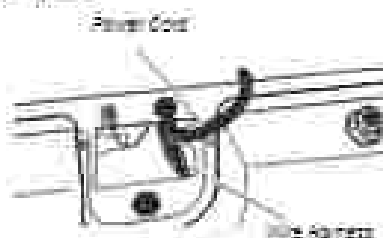
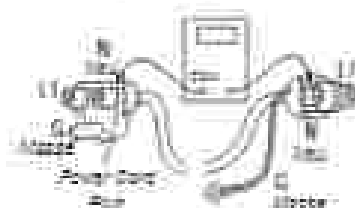

Figure 4 - Power cord-to-wire harness connection for gas dryer.
Figure 5 - Power cord terminals, gas dryer
3. Check that the power cord is firmly connected to the dryer's wire harness. See figure 4.
5. With an ohmmeter, check for continuity between the neutral (N) terminal of the plug and J7-4 (white wire) on the ACU. The left-hand side of figure 5 shows the location of the neutral terminal (N) on the power cord plug. Also see figure 1, page 13.
- If there is no continuity, disconnect the white wire of the main harness from the power cord at the location illustrated in figure 4. Test the continuity of the power cord's neutral wire as illustrated in figure 5. If an open circuit is found, replace the power cord. Otherwise, go to step 6.
- If there is no continuity, check the continuity of the power cord in a similar way to that illustrated in figure 5, but for power cord's L1 wire.